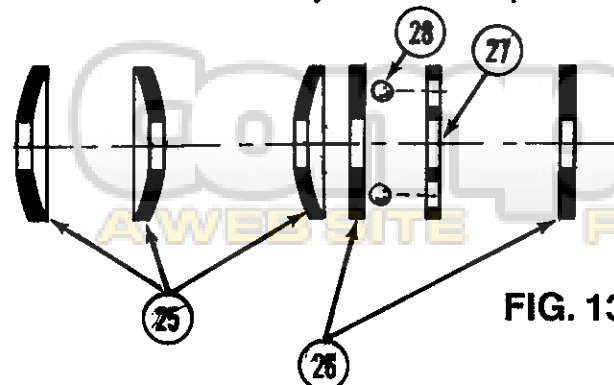

FIG. 13
9. Using 5-40 x 7/8" button head shoulder screw (24) assemble thrust assembly in the following order. Fig. 13.
A. Slide through opposing belleville cone washers (25) down the 5-40 x 7/8" button head shoulder screw (24) with the top of the cone of the first washer (25) against the head of the screw (24).
\* NOTE: The washers (25) should be opposing ie; the tops of the cones should meet and the bottoms of the cones should meet. Fig.13.